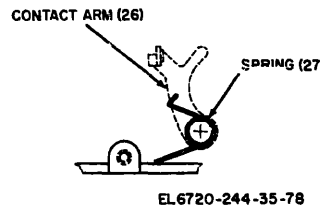

Figure 5-6. Spring location (spring 27) from fig. 3-11).
- (7) Place spring (27) on shaft of contact arm (26), and insert contact arm into camera chassis. Place spring (25) on shaft of contact arm, and secure with retaining ring (24).
See figure 5-6 for location of spring (27).
- (8) Position spring (22) on lower portion of double stop lever (23), and insert shaft (21). Place assembly on camera chassis.